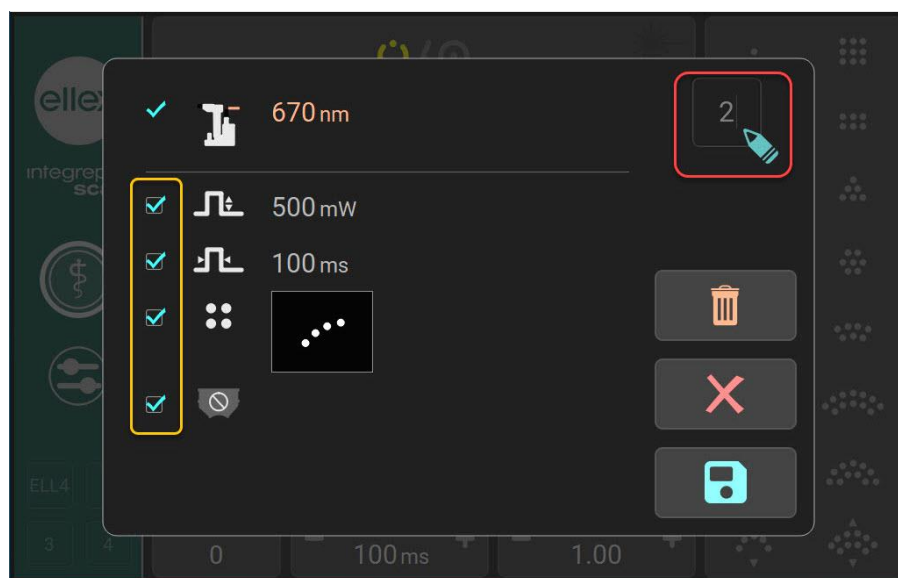

Figure 5-2
- 4 (Optional) By default these treatment memory settings are stored as Numbers. If you wish to provide a name, then click on the number (highlighted red box in Figure 5-2). A keyboard pop-up appears. Enter up to 4 alpha numeric characters and tap  to register the name.